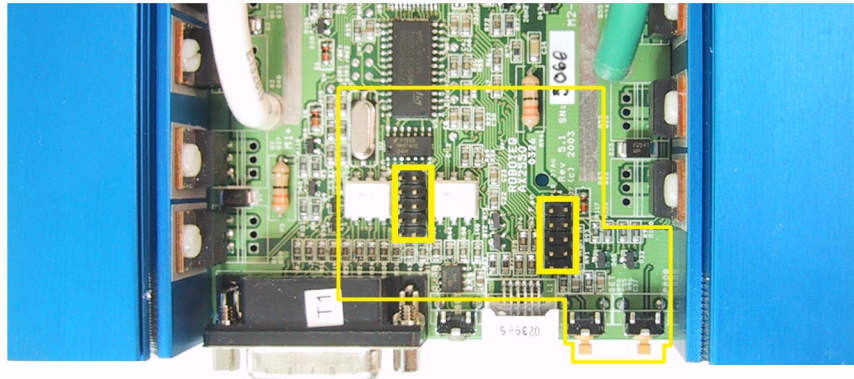

FIGURE 80. Position of Encoder Module on Controller's main board
- 2- Carefully insert the encoder module on top of the two headers present on the controller's main board and shown in Figure 80. Beware that the two matting connectors are precisely aligned